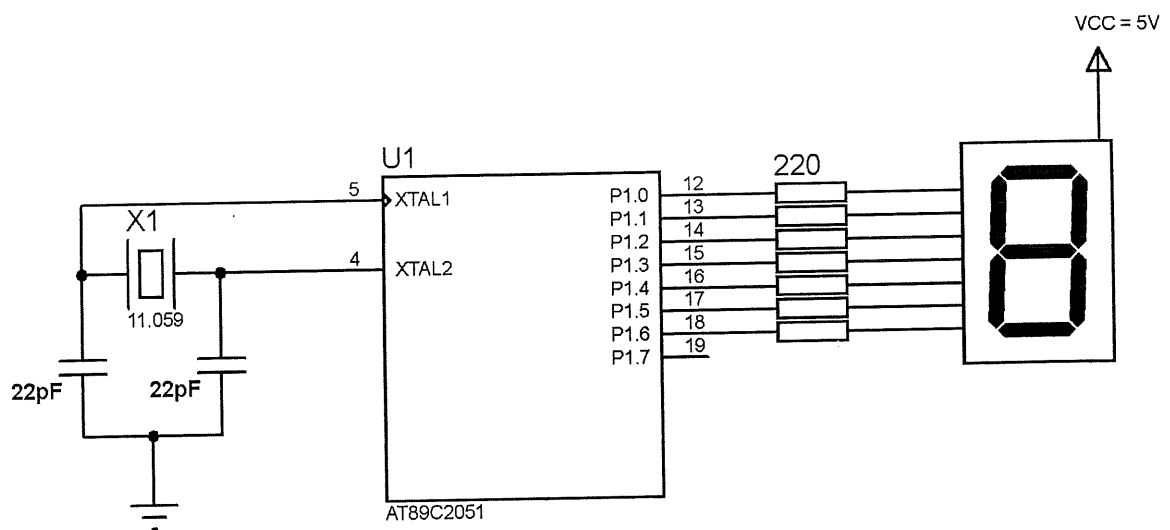

Figure 1
d) Refer to the circuit in Figure 1, answer the following questions:
- i. State TWO (2) types of 7 segment display unit. (2 marks)